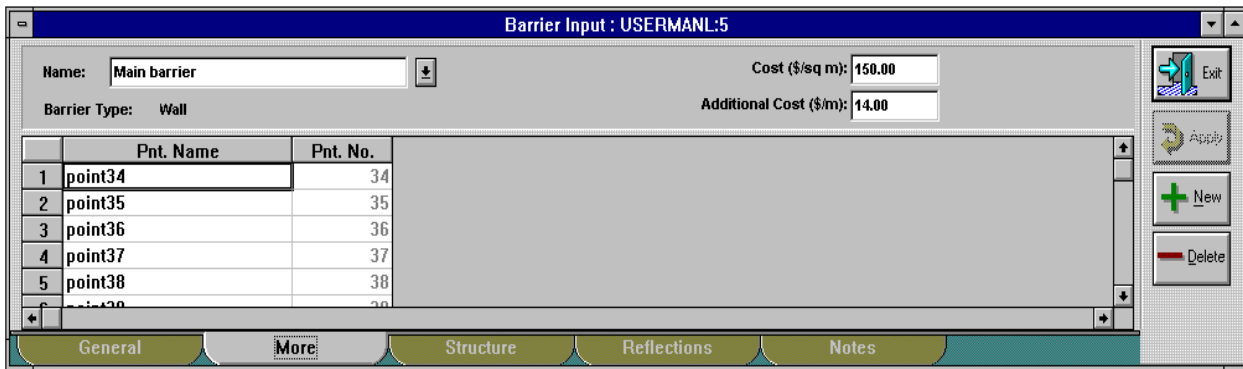

Figure 34. Barrier input: "More" tab for wall barriers.
2. Select  on the barrier input dialog (see Figures 34 and 35).